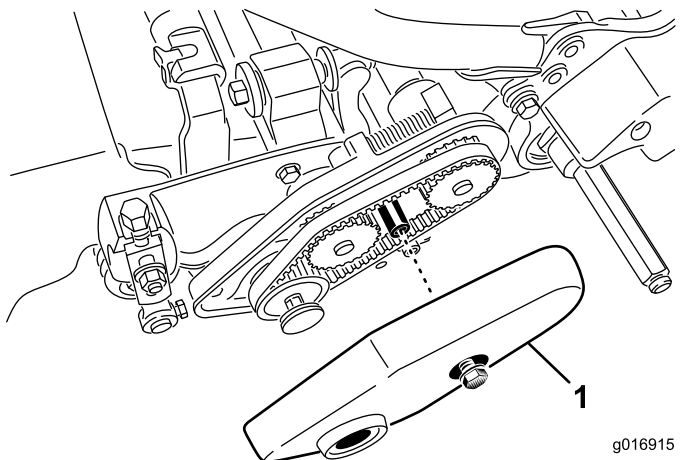

Figure 20
2. Loosen the flange bolt securing the belt cover and remove the belt cover to expose the belt (Figure 20).